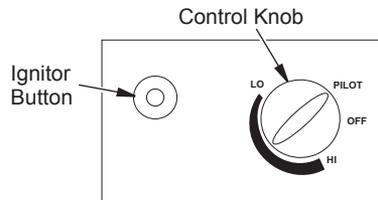

Figure 35 - Control Knob and Ignitor Button Location
4. Wait five (5) minutes to clear out any gas. Then smell for gas, including near the floor. If you smell gas, STOP! Follow "B" in the safety information in column 1. If you don't smell gas, go to the next step.
5. Press in control knob and turn counter-clockwise  to the PILOT position. Keep control knob pressed in for five (5) seconds (see Figure 35).